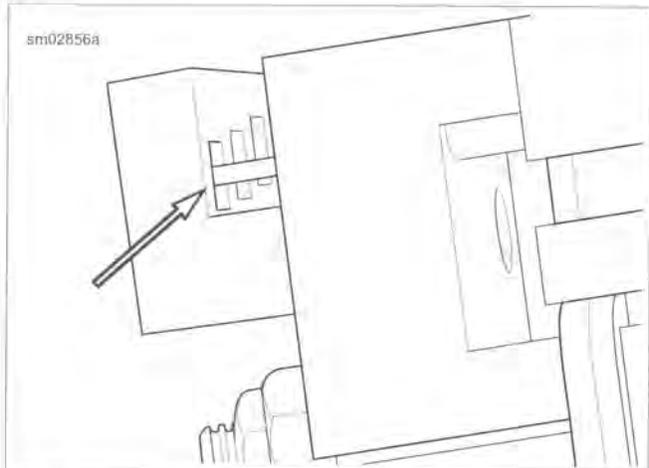

Figure A-55. Pin Terminal against Pin Locator Bar
- Pin Terminal:** See Figure A-55. The tip of a pin terminal passes through the socket locator bar and stops in the notch in the face of the pin locator bar.